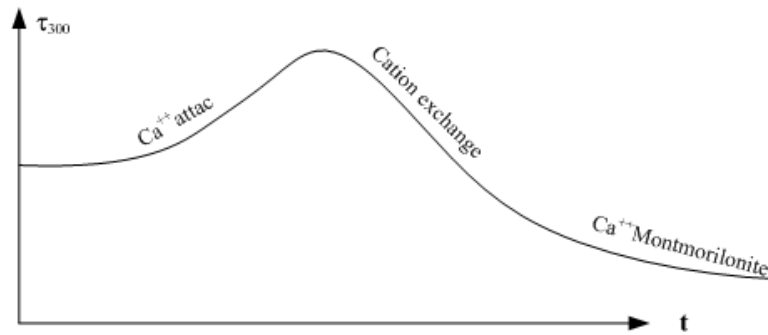

Figure 1-3: Shear stress vs. time after encountering high concentration of contaminants.
- The cement is by far not hardened and contains a high concentration of lime (CaOH). Lime dissociates and one Ca++ ion attack 2 charged clay plates. This binding cannot be broken by mechanical means (shear stress), and the stiff mud has to be dumped when circulated to surface. See Figure 1-3.